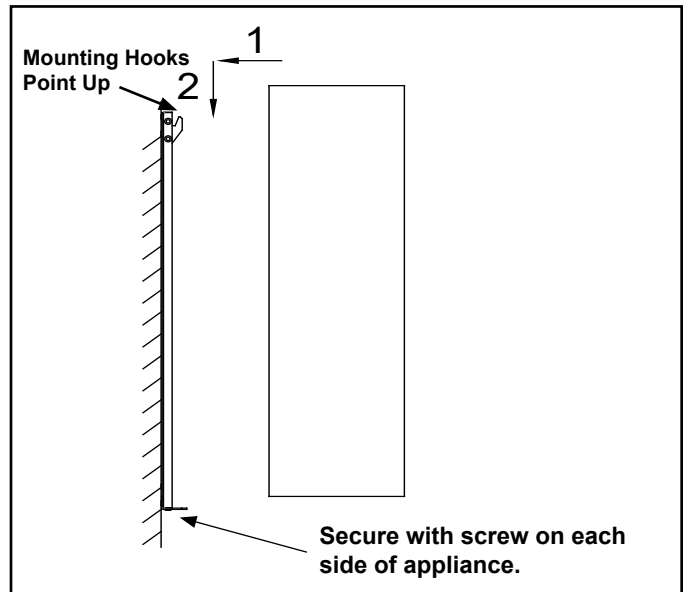

Figure 8 Attaching Appliance to Bracket
3. Hang the appliance and pull down to ensure the hooks are fully engaged. See Figure 8.
4. Secure the appliance to the bracket with two M5X10 screws. See Figure 8.